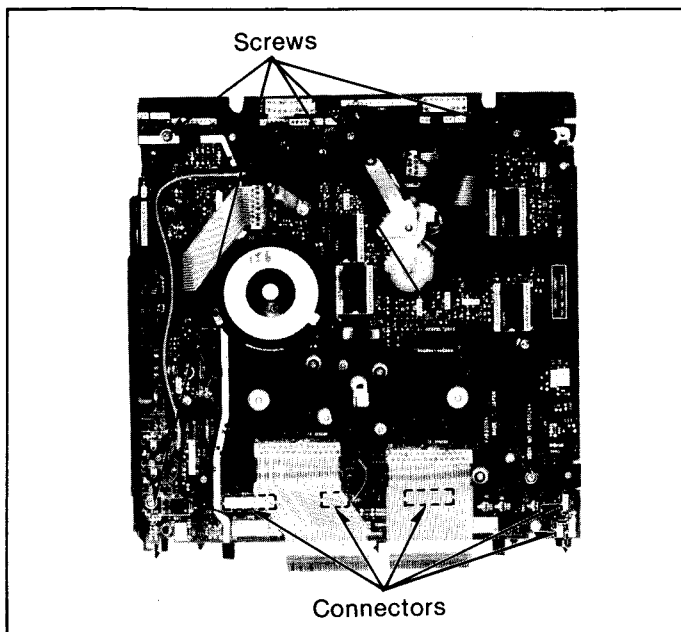

Fig. M13 Removal of Main C.B.A.-(1)
1. Remove 3 screws on the Servo/A.V.R C.B.A. section. Then remove 5 screws on the Main C.B.A. (Refer to Fig. M13)